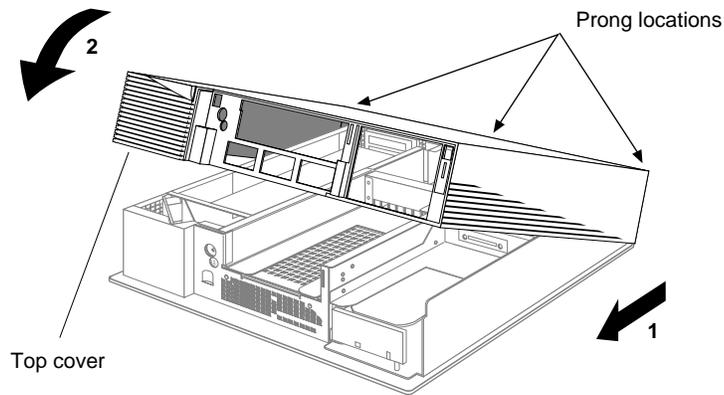

Figure 17 Replacing the top cover on the Indigo² chassis.
1. Place the prongs on the underside of the cover into the slots under the top ridge of the backplane of the chassis, as shown in Figure 17.